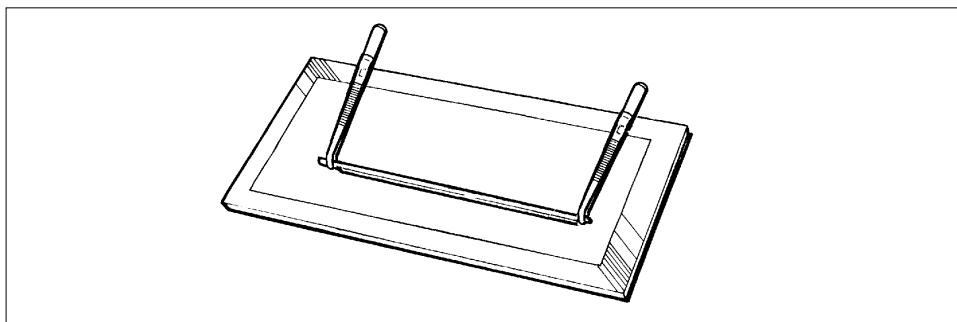

Fig. 22.
- After the second equilibration, place the strips on a piece of filter paper that has been moistened with dH₂O (Fig. 22).